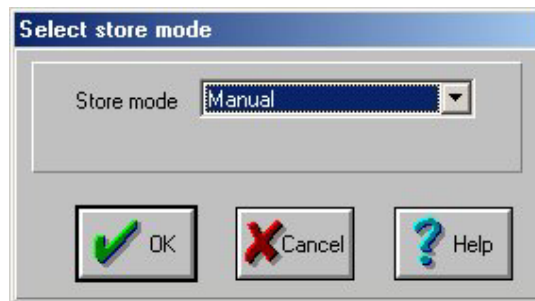

Fig. 2: Store Mode Selection Box
8. A second 'pop-up' box appears titled 'Select store mode'. The default is 'Manual' store mode, therefore, (See Fig. 2) Click 'OK' to accept.